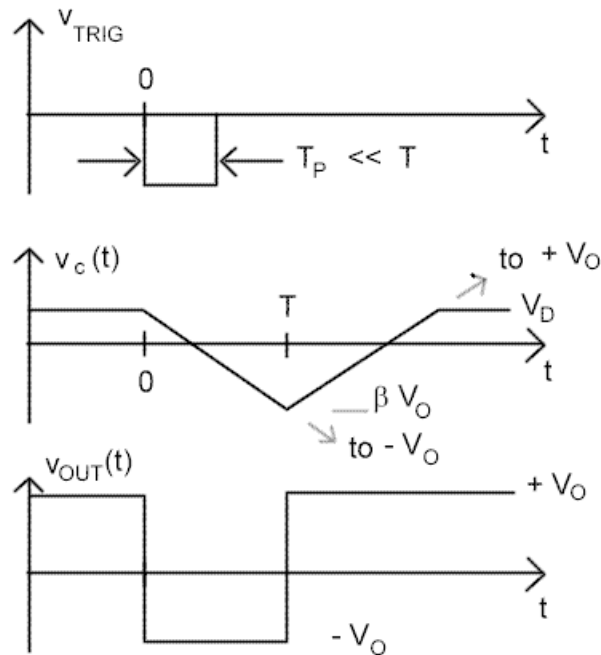

Figure 7
To see how the circuit operates, assume that it is in its stable state with the output at vO = +VO and the capacitor clamped at the diode D1 on voltage VD (0.7 V (with b VO > VD ). If the trigger amplitude is greater than b VO - VD, it will cause the comparator to switch to an output vO = -VO. As indicated in figure 7, the capacitor will now charge exponentially with a time constant t = RC through R toward -VO because D1 becomes reverse-biased. When vC becomes more negative than - b VO, the comparator output swings back to +VO. The capacitor now starts charging toward +VO through R until vC reaches VD and C becomes clamped again at vC = VD.
(2) Calculate all values shown in figure 7 and plot the output and capacitor voltage waveforms.